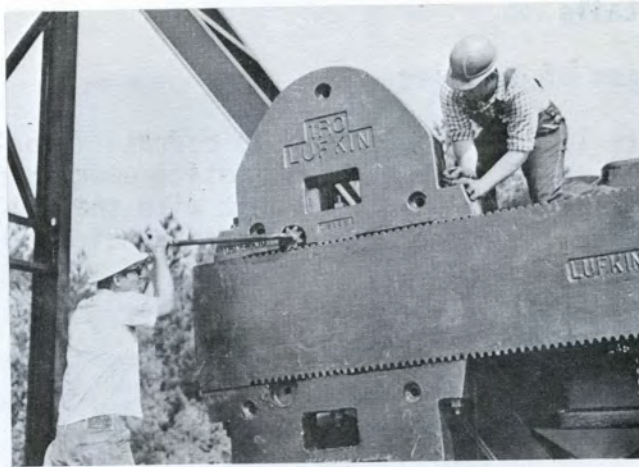

Figure 38
Slide the counterweight bolts into the tee slot of the crank thru the cored hole near the crank shaft. Lift the counterweight with a sling as shown in Fig. 27. On symmetrical weights the recess for the adjusting pinion (See Fig. 38) goes toward the long end of the cranks. On small unsymmetrical weights, the curved part of the weight goes toward the long end of the crank. Line the counterweight bolts up with the holes in the weights and swing the weight into position against the face of the crank. To avoid injury to fingers and hands, hold the bolts with a large channel lock pliers or other suitable tool. Install the nuts and tighten according to the recommendations given under "Fasteners" in Section IX. Install a second nut as a jam nut.
2. Figure 38 - Counterweight Movement
Stop the unit with the long end of the cranks pointing away from the well. The cranks should be in a horizontal position or slightly down hill in the direction the weights are to be moved as shown in Fig. 38. Set the brake and engage the positive stop pawl. Loosen the counterweight bolts just enough to allow the weights to move. Use the pinion adjusting tool as shown and move the weights to the desired position. The weight on the bottom of the crank may be moved likewise. Tighten the counterweight bolts following the recommendations given under "Fasteners" in Section IX and install the second nut as a jam nut.